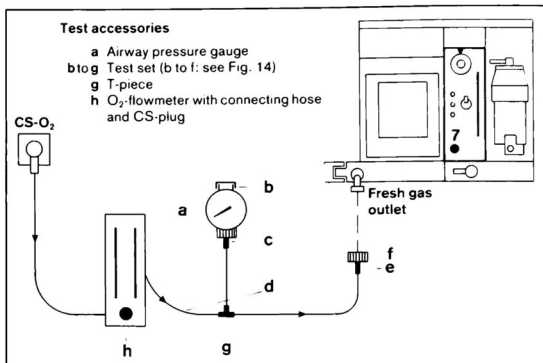

Fig. 22 Test assembly
Accessories required (see Fig. 22):
- Assemble parts a-h according to Fig. 22.